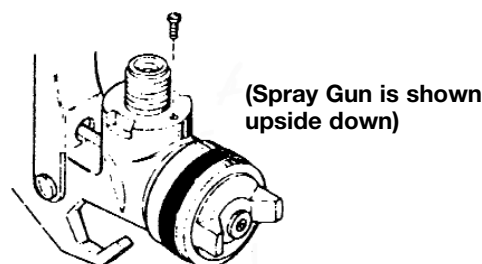

Figure 1
2. Unscrew the shroud retaining sleeve (25). The fluid tube, compression ring, and shroud can now be removed from the gun. To avoid loss and damage the small parts should be stored in the cup and the shroud assembled to the cup.
3. Install (SSF-9821-PB) thread forming screw (included with spray gun) into the small pressure port located on the surface where the shroud gasket seats. The screw should be tightened until the shoulder contacts the spray gun body. (See Fig. 1)